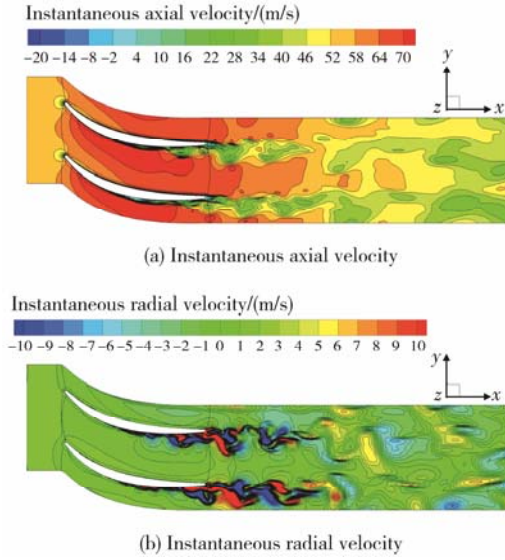
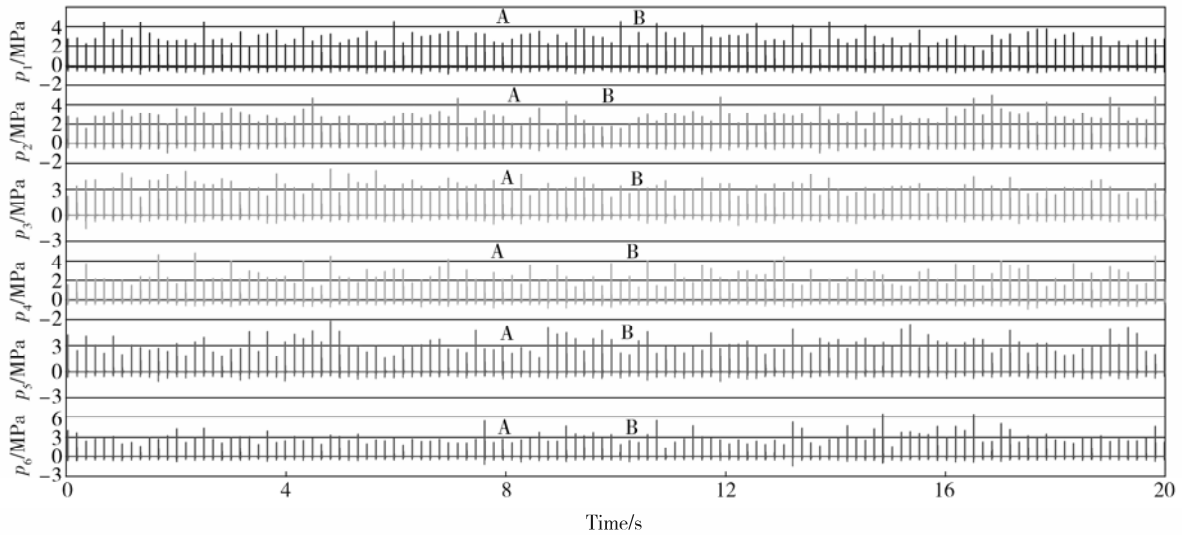

Figure 1 Large eddy simulation (LES) predicted contours of instantaneous axial velocity and radial velocity
Figure 2 Pressure history of six-tube working together within 20 seconds (Times New Roman, 8-point size)
- (1) Figures can be in color or grayscale, or be black-and-white. Figures should have no background, borders, or outlines.
- (2) Insert figures within your text, and the figures may also be submitted as separate files. Number figures according to their sequence in the text. Use “Figure” instead of “Fig.” both in the text and in figure captions, for example, “Figure 1”, “Figure 2”. Ensure that each figure mentioned in the text actually exists.
- (3) Ensure that each figure has a caption, and place the caption below its figure. If a figure has multiple parts, insert sub-caption, such as “(a)”, “(b)”, below each part and above the figure caption. Provide detailed information and minimize use of abbreviations in figure captions, and make sure your figures can be understood without reading the text.
Figure 1 and Figure 2 show the examples for full page width and column width figures.